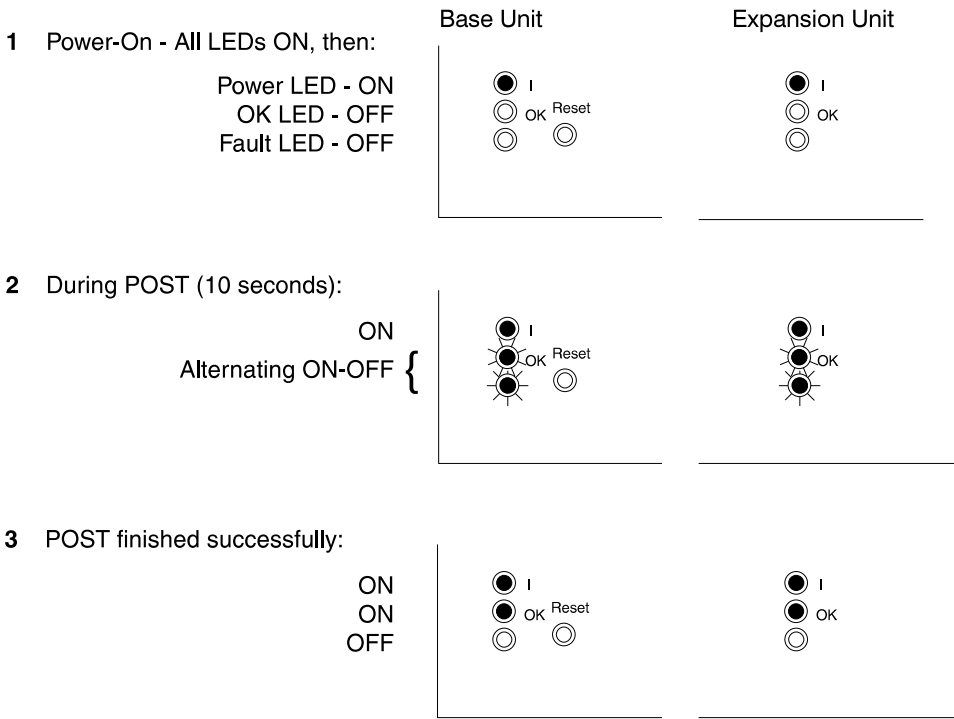

Figure 36. Pattern of the Status LEDs during Power-On Self-Test
- ___ **2** Check that the Power LEDs (I) on the front panels of the Base Unit and the Expansion Unit are lit (step 1 in Figure 36 on page 70).
- If the POST has been completed successfully and all of the LEDs are in the normal state (step 3 in Figure 36 on page 70), the ATM Workgroup Switch is running normally.
The ATM Workgroup Switch automatically performs a POST once it is connected to a power supply. The POST should last about 10 seconds. Figure 36 shows the patterns of the Status LEDs on the Base Unit and Expansion Unit as the ATM Workgroup Switch performs its POST.